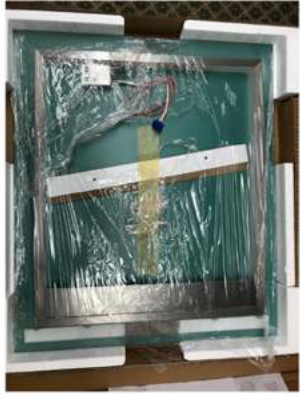

Figure 1 - Package of the Led - Mirror assembly
- Remove the plastic cover that comes with packaging shown in Figure 1